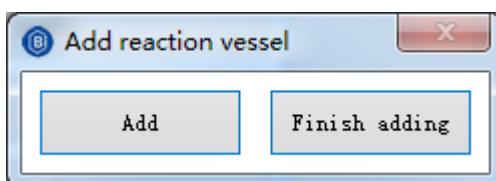

Figure. 8.8.2 Finish adding reaction vessels
- After the adding the consumables, please click **Finish adding**, as shown in Figure 8.8.2.